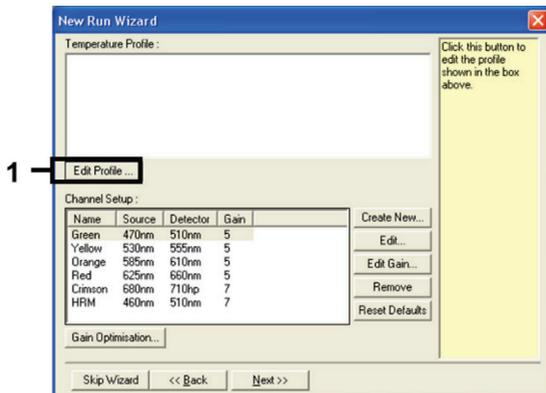

Figure 3. Editing the profile.
- Click **Edit Profile** in the “New Run Wizard” dialog box (Figure 3) and set the run parameters according to the following steps.